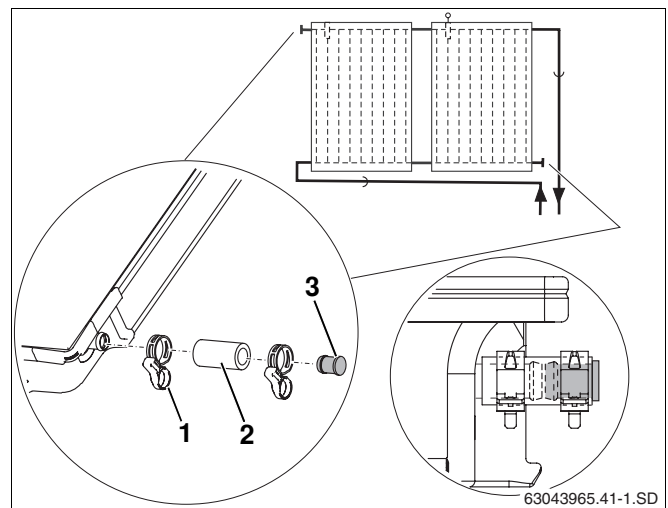

Fig. 40 Fitting the dummy plug and hose clip
- Put 55 mm solar hoses (Fig. 40, **Item 2**) together with the pre-assembled dummy plug onto the two free connections on the collector array.